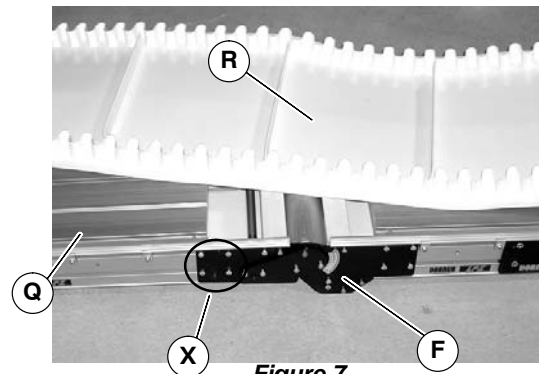

Figure 7
3. Roll out conveyor belt (R of Figure 7). Loosen (4) screws (X) on both sides of knuckle (E). Slide frame (Q) into knuckle (E). Tighten screws (X) to 60 in-lb (7 N-m) on both sides of conveyor.